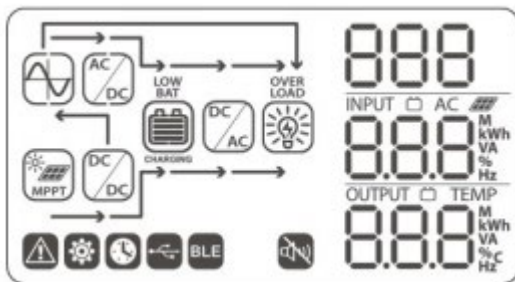

Figure 109: Hybrid Inverter Display (Phocos Anygrid)
4.3.1 Test DC Voltage and Polarity of battery (1)
- Observe that the inverter switch on correctly and indicates the battery symbol or indicator (Figure 109).
- Ensure that the inverter indicates that the PV is connected and charging the battery (Figure 109)